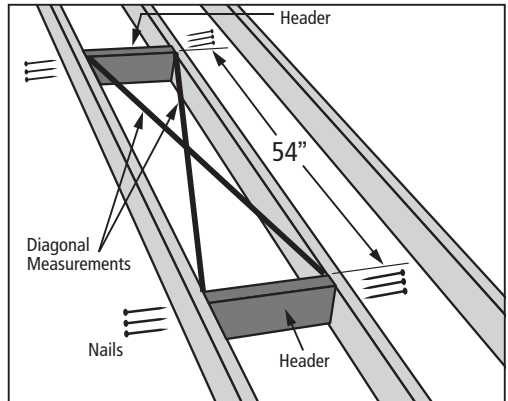

FIGURE 14
Make a rough opening to the size as required in table 1 ensuring that the dimensions of the diagonals of the frame are the same as illustrated in Figure 14.
A. For Rough opening without joist removal (Figure 14)
- Locate headers in front and rear of the opening as shown in Figure 14.
- Secure using (3) 16d nails into each end of the Header.